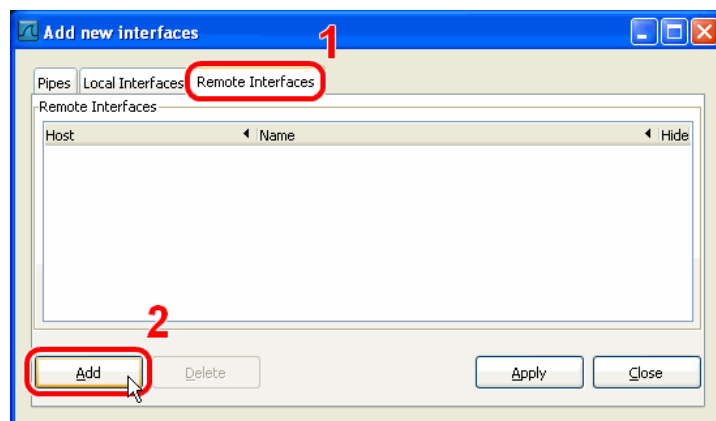

Figure 267: Wireshark Add New Interfaces Dialog.
3. Select the **Remote Interfaces** tab and click **Add** as shown in Figure 267.